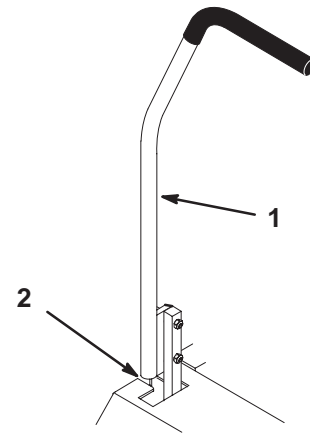

Figure 61
3. Check where lever is relative to notch in console (should be centered allowing lever to pivot outward to the neutral lock position (Fig. 61).